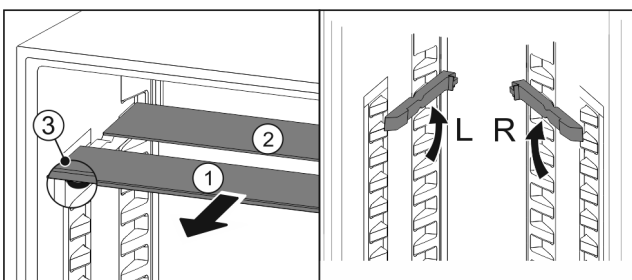

Fig. 158
- ▶ Pull the glass panels out Fig. 158 (1) from the front, one at a time.
- ▶ The glass panel Fig. 158 (1) and trim strip are at the front.
- ▶ The stops Fig. 158 (3) point down.